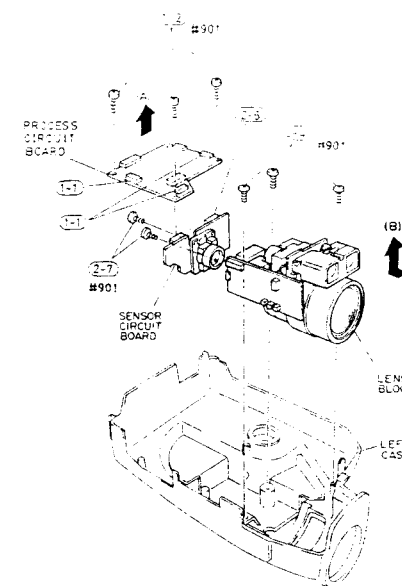

Fig. 2-25
- 1) Disconnect two (2) connectors (CN1208, CN1209) and one (1) flat cable (CN1207) on the process circuit board. (See Fig. 2-25)
- 2) Remove three (3) screws holding the process circuit board.
- 3) Remove the process circuit board in the direction of arrow (A) separating the from the sensor circuit board. (The process and sensor circuit boards are connected via board-in type connector.)
- 4) Remove three (3) screws holding the lens block. (See Fig. 2-25)
- 5) Remove the lens block and sensor circuit board from the left case in the direction of arrow (B).
- 6) Disconnect one (1) flat cable (CN1002) on the sensor circuit board.
- 7) Remove two (2) screws holding the sensor circuit board.